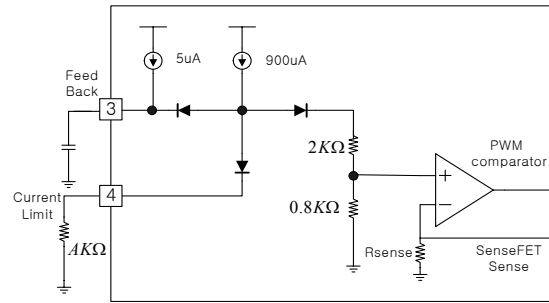

Figure 14. Peak current adjustment
**8. Adjusting Current limit function:** As shown in fig 14, a combined  $2.8\text{k}\Omega$  internal resistance is connected into the non-inverting lead on the PWM comparator. A external resistance of A on the current limit pin forms a parallel resistance with the  $2.8\text{k}\Omega$  when the internal diodes are biased by the main current source of  $900\mu\text{A}$ .